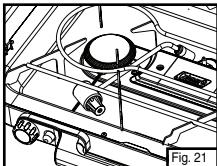

Fig. 21
- For storage or transport, the regulator may be located below the pot support. (Fig. 21)